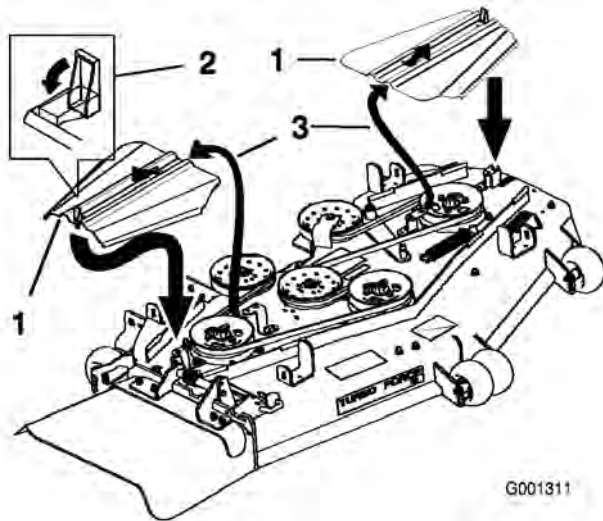

Figure 58
3. Remove the belt covers (Figure 58).
9. Install the belt covers by sliding the cover into the tab, install the bolts, and close the latches (Figure 58).